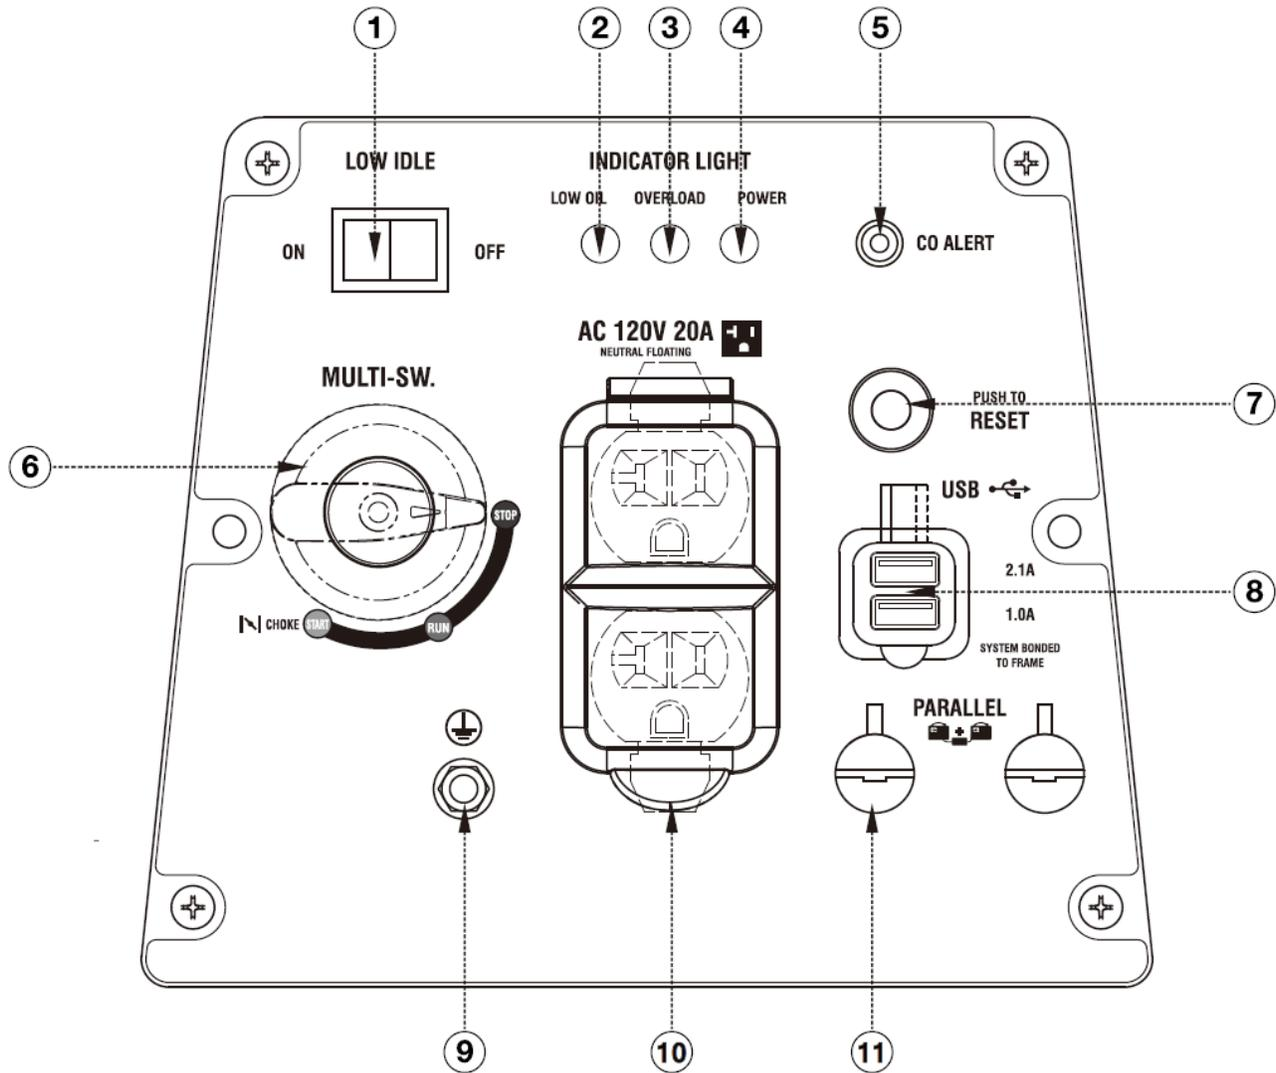

**FIGURE 1A/1B:**
1. Bar-code decal applied to the top of the generator housing - **Figure 1A**